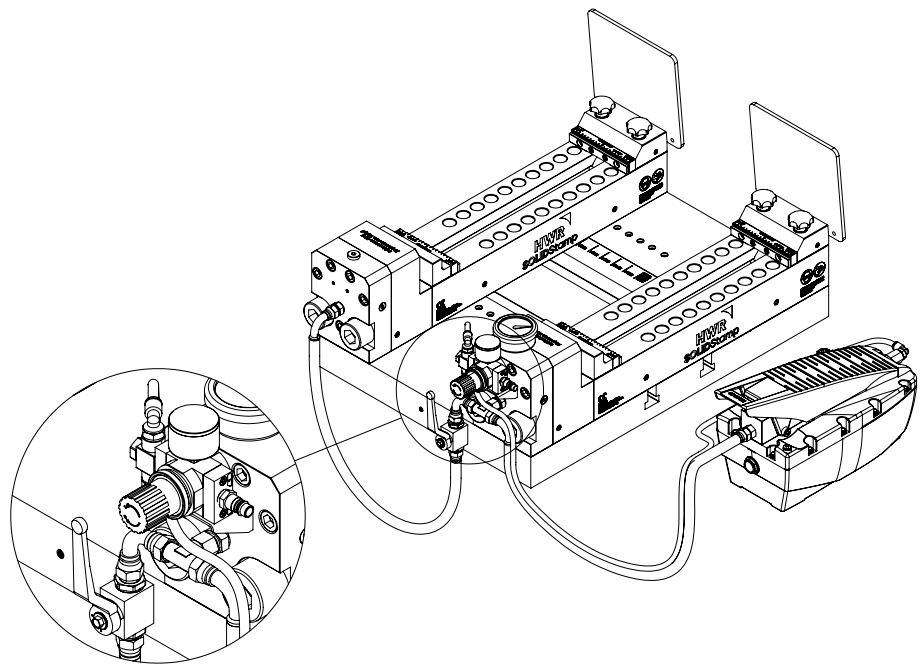

Fig. 3-3: Installation hydraulic hoses
- Step 4 Connect the pre-assembled hydraulic hoses as shown in figure 3-3.